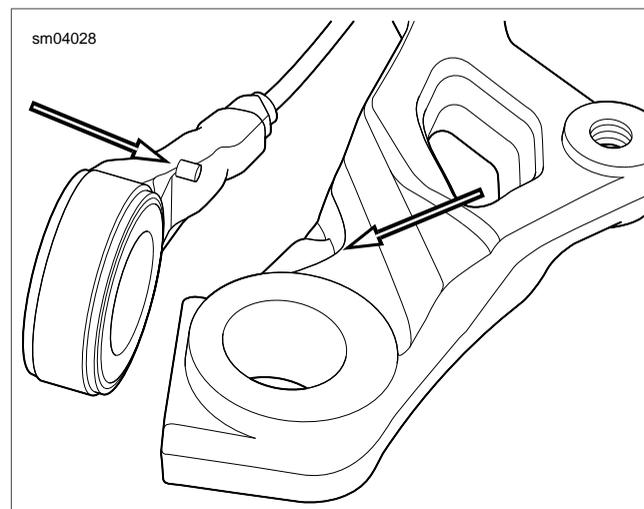

Figure 2-8. Rear Wheel Speed Sensor Index Pin (ABS Equipped)
- d. If ABS equipped, route sensor cable forward outboard of caliper bracket and then continue forward progression following top of rear swingarm. Rotate rear wheel speed sensor in a counter-clockwise direction until index pin makes contact with caliper bracket at point shown in Figure 2-8.